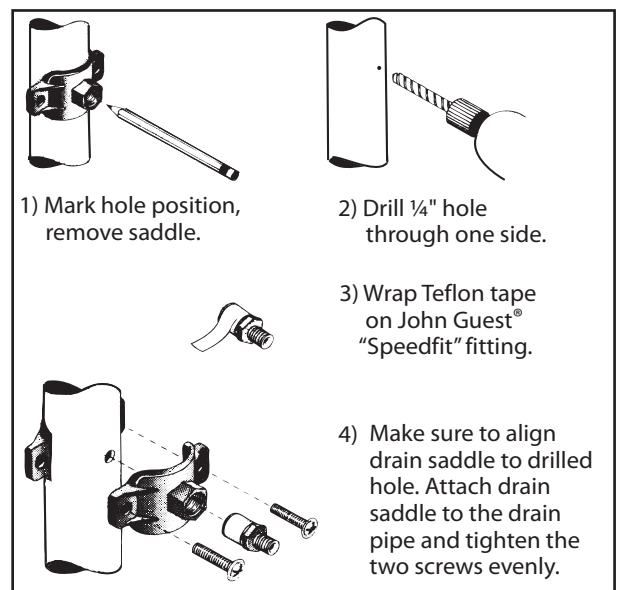

Figure 3, Mounting the Drain Saddle Valve
- b) Refer to Figure 3 and follow steps one through four to mount the drain saddle valve.